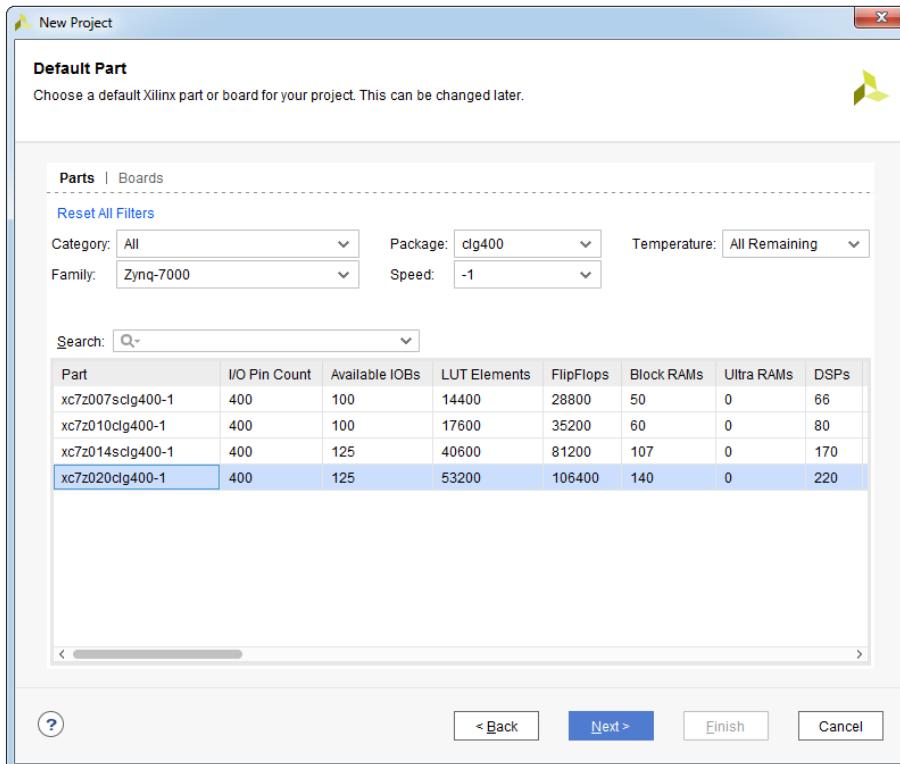

Figure 12.10: Default Part dialog box
10. In the **Default Part** dialog box, click **Parts** option and set the following parameters as it is shown on Figure 12.10.